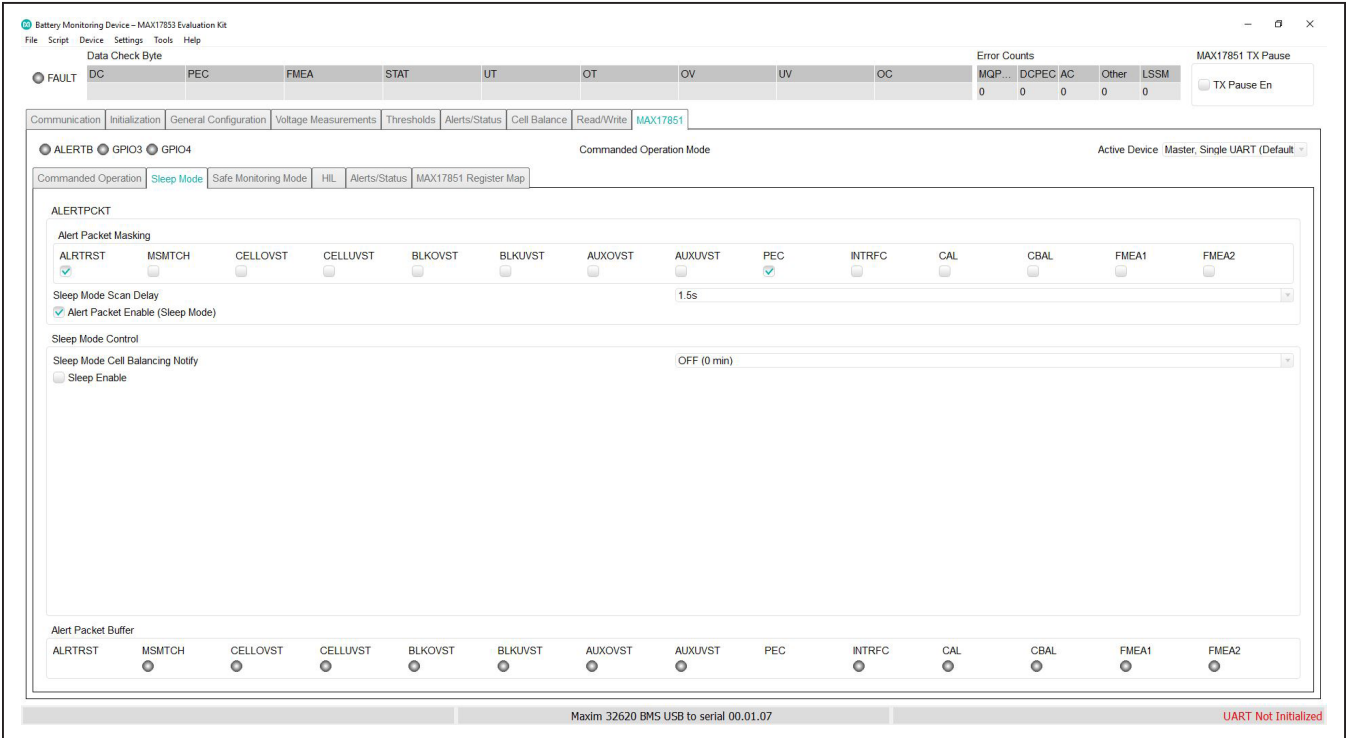

Figure 11. Sleep Mode tab
- 4) Select the **Sleep Mode** tab (Figure 11) and set the **Sleep Mode Cell Balancing Notify** to 30 min.